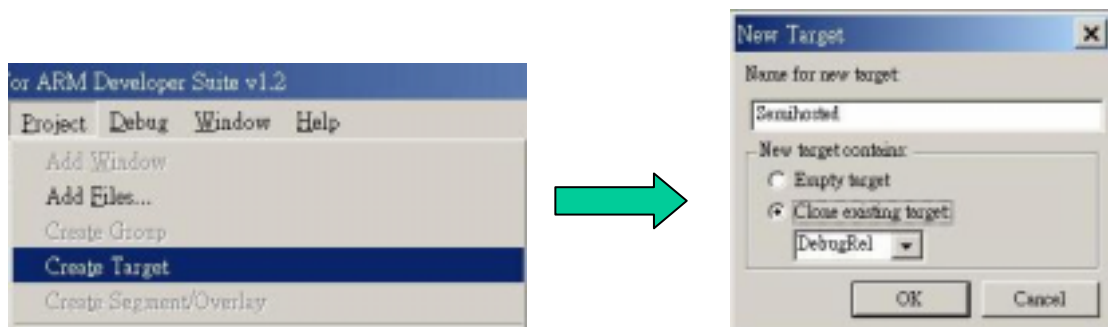

Figure 4 Add New Target to the files
- (1) A Project Management Window appears. Click on the Targets tab.
- (2) Select **Project** → **Create Target** (Figure 4).
- (3) A **New Target** window appears.
- (b) Click **Clone existing target** in the **New target contains**. We show this in Figure 4.
- (4) Click **OK**.